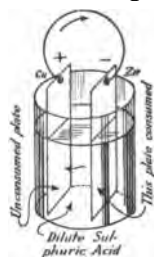

FIG. 221. — Voltaic cell.
**259. Voltaic battery.** A glass tumbler, with a strip of zinc and a strip of copper dipping into dilute sulphuric acid (Fig. 221), is one form of **voltaic cell**, and when several cells are combined, they constitute a **battery**.